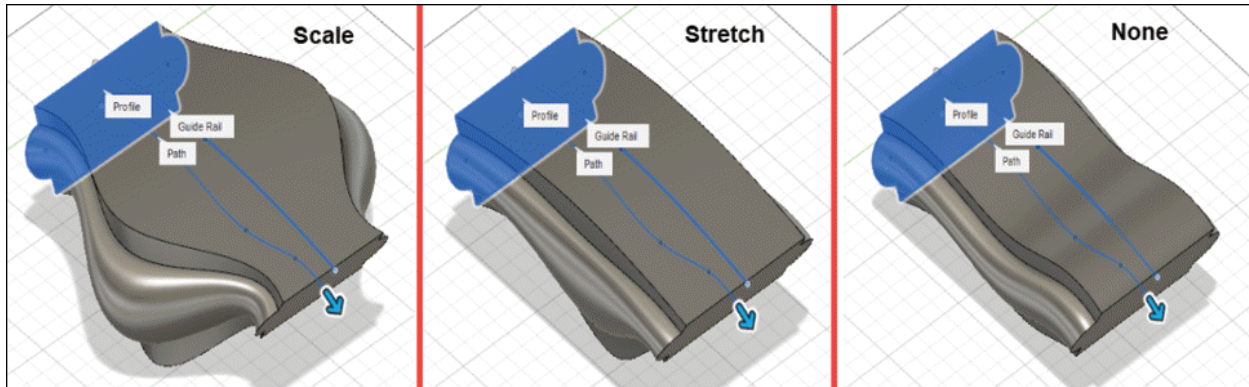

Figure-65. Preview of profile orientation
- Select the **Scale** option from **Profile Scaling** drop-down in **SWEEP** dialog box, if you want to equally scale the profile in both X and Y direction; refer to Figure-65. **The profile will be scaled up depending on the distance between path and guide rail.**
- Select the **Stretch** option from **Profile Scaling** drop-down if you want to scale the profile in X direction only. In this way, profile will keep following guide rail while moving along the path; refer to Figure-65.
- Click on **None** option from **Profile Scaling** drop-down if you don't want to scale the profile along sweep. On selecting this option, guide rail is used as an orientation guide only; refer to Figure-65.